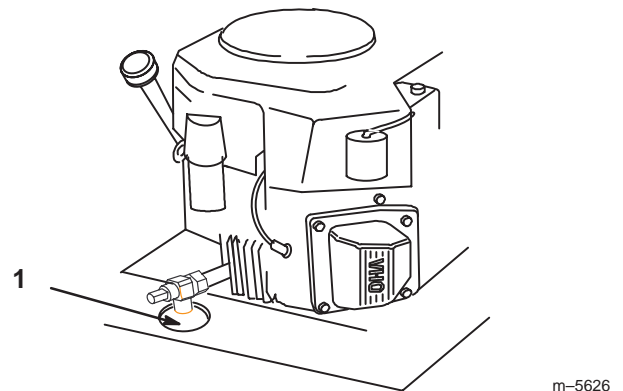

Figure 32
3. Place a pan below the oil drain. Remove the oil drain cap (Fig. 32).